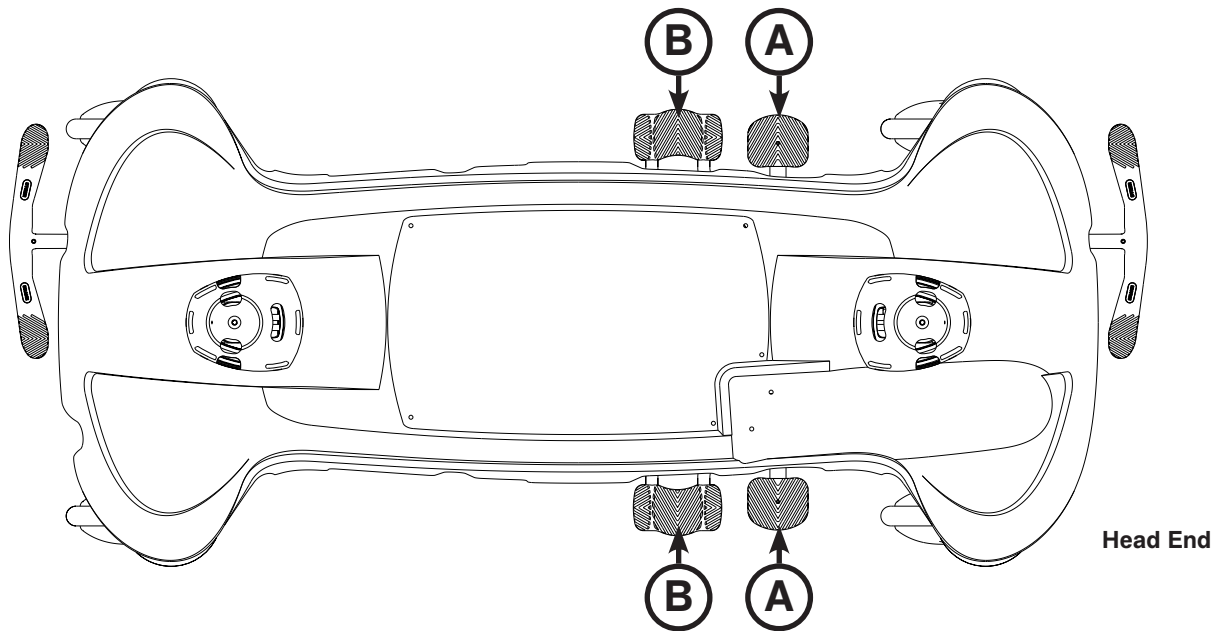

Figure 2: Stretcher Base Controls - Side Control
To operate the base controls, see Figure 2 to locate which pedals are used for what operation.
To raise the litter height electrically, depress pedal (A) (see Figure 2 on page 17 or Figure 3 on page 18). The litter will begin to raise. Hold the pedal down until the desired litter height is achieved. Release the pedal at any time to stop the litter motion.
For Trendelenburg positioning (head down), depress the side of pedal (B) closest to the head end (see Figure 2 on page 17).
For reverse Trendelenburg positioning (foot down), depress the side of pedal (B) closest to the foot end (see Figure 2 on page 17).
To lower the stretcher from reverse Trendelenburg position, depress pedal (A) once to raise the foot end of the stretcher, and then depress pedal (B) (see Figure 2 on page 17).